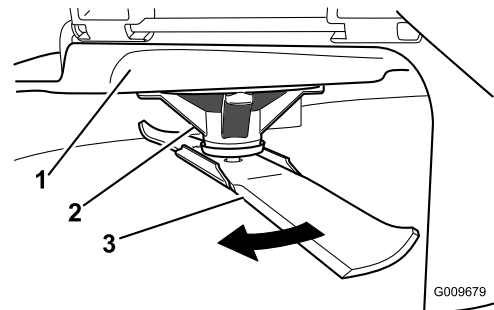

Figure 45
2. While wearing thickly-padded gloves, or other adequate hand protection, slowly rotate the blade to be measure into a position that allows effective measurement of the distance between the cutting edge and the level surface the machine is on (Figure 45).